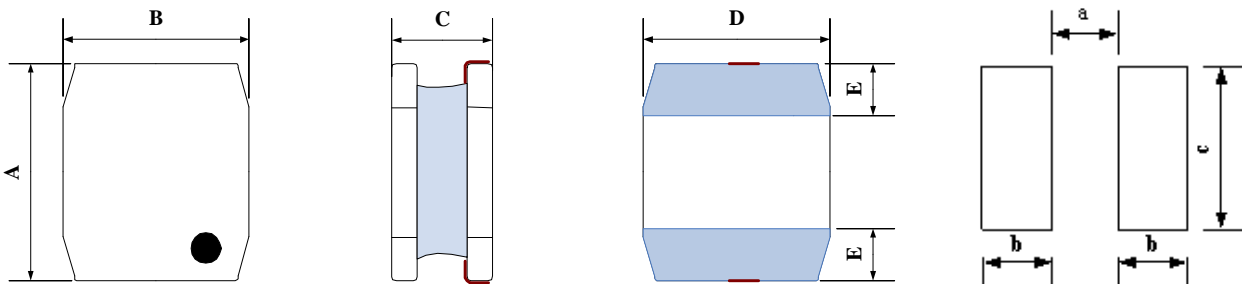

Fig. 4-1
- 1) Dimensions and recommended PCB pattern for reflow soldering, please see **Fig. 4-1** and **Table 4-1**.